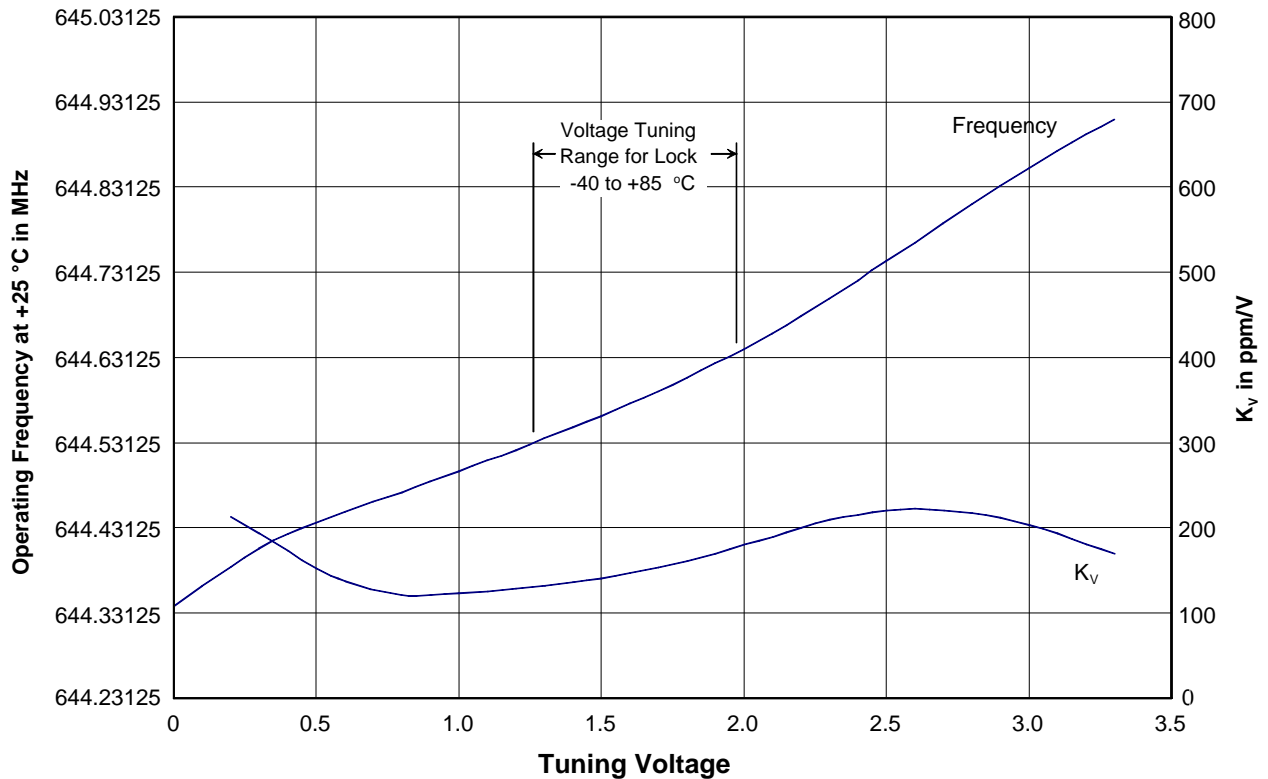

Figure 4
8. See Figure 4.
Controlled Tuning Characteristics - the OP4012B voltage tuning constant, K_V , is bounded between 100 and 260 ppm/V under locked conditions for reference signals with ± 100 ppm or better stability over the OP4012B's full operating temperature and supply voltage range. This allows a PLL based on the OP4012B to be designed with a well-controlled loop bandwidth and damping factor, avoiding problems such as jitter peaking, etc. The voltage tuning characteristic of the OP4012B is monotonic from 0 to 3.3 V, supporting reliable acquisition of phase lock. Figure 4 shows typical OP4012B tuning characteristics.
The frequency tuning of the OP4012B is characterized over a voltage range of 0 to 3.3 V. The tuning voltage applied to the OP4012B should be limited to this range. Figure 4 shows the typical locked tuning range for operation over -40 or $+85$ °C. The frequency shift of a quartz SAW frequency control device with temperature has the shape of an inverted parabola, with the highest frequency occurring around $+25$ °C. At both -40 and $+85$ °C, there will be a 170 ppm downward shift in the frequency of the SAW device compared to $+25$ °C. Tuning to compensate for this temperature shift is the same as tuning 170 ppm higher at $+25$ °C. This is well within the tuning range of the OP4012B, as shown in Figure 4. Note that the voltage tuning constant, K_V , is bounded between 140 and 300 ppm/V under locked conditions for any temperature within the OP4012B's specified operating range.